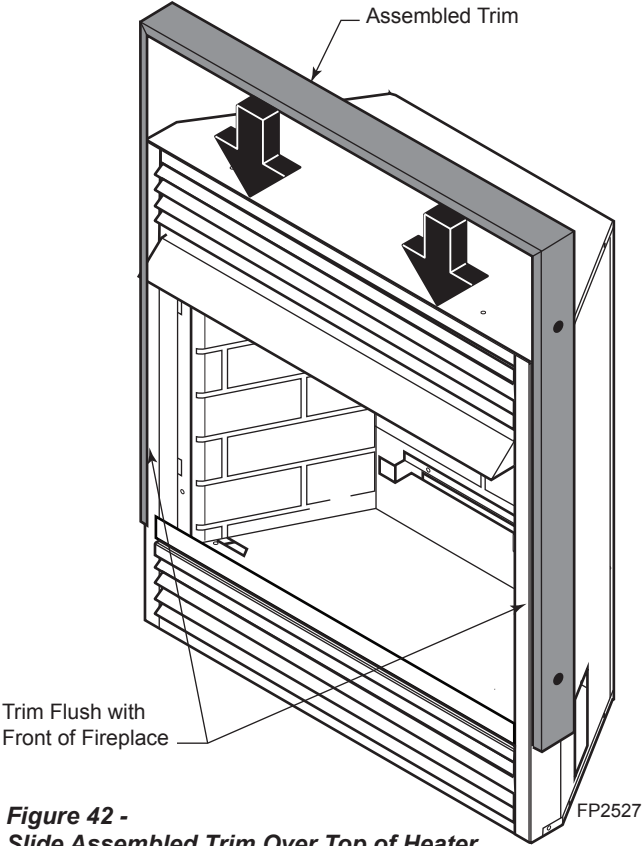

Figure 42 -
6. Slide assembled trim over the top and down the sides of the fireplace. Flush trim with front of fireplace as shown in *Figure 42*.